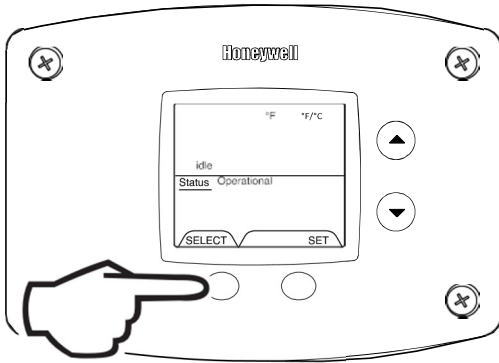

Fig. 20
3. Change temperature format from °F to °C by following the steps in Fig. 20 on page 28.
1. Press 'SELECT' button until °F/ °C is displayed (Fig. 20).